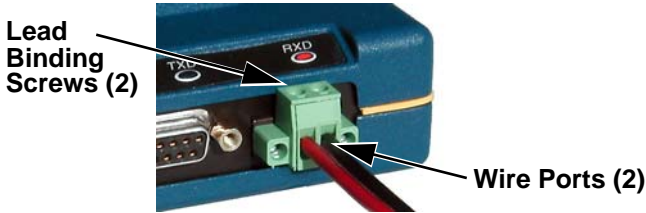

Figure 15. Power Connector
- Measure and install the primary power for the transceiver. It must be within 6–30 Vdc (including transients) and be capable of providing 7.5 watts over this voltage range. (Typical current draw is 510 mA @ 13.8 Vdc; 1.25A @ 6 Vdc.) A power connector with screw-terminals is provided with each unit. Strip the wire leads to 0.25"/6 mm. Be sure to observe proper polarity. The left pin is the positive input; the right is negative. (See Figure 15.)
Only the power connector, shown in Figure 15 with screw terminals and two retainer screws should be used with this unit.